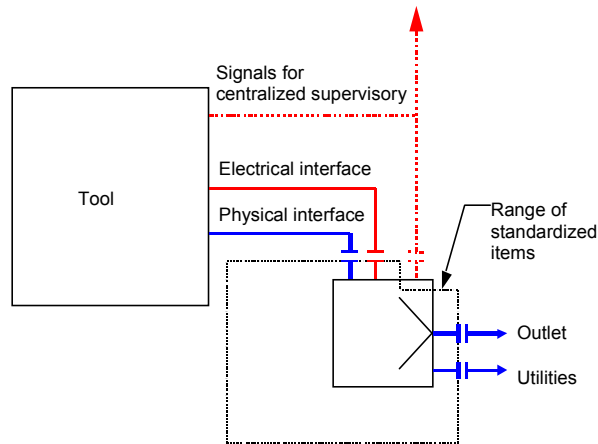

Figure 1
2.3 Figure 1 shows the scope of the standardized interface.